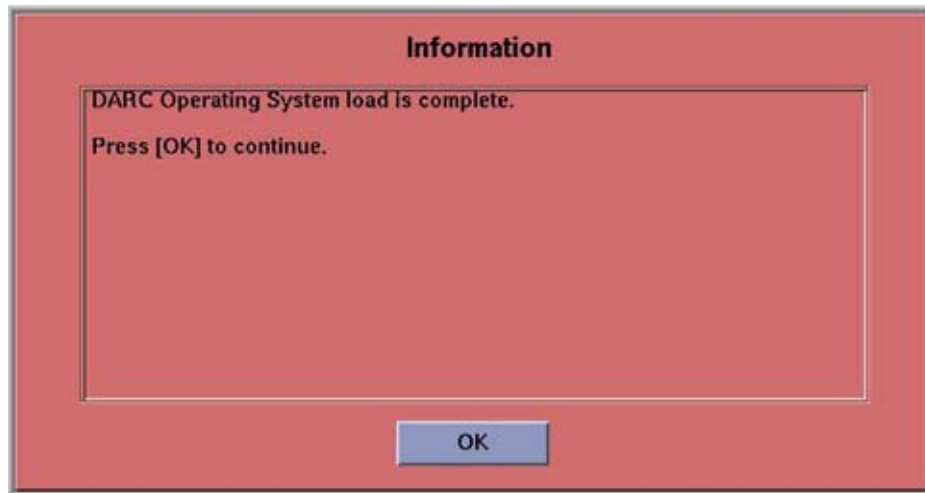

Figure 10-11 DARC OS Load Complete Pop-up Window
- 8.) The DARC OS 'Load Window' should disappear when the load has completed successfully. An information window should appear. See Figure 10-11.